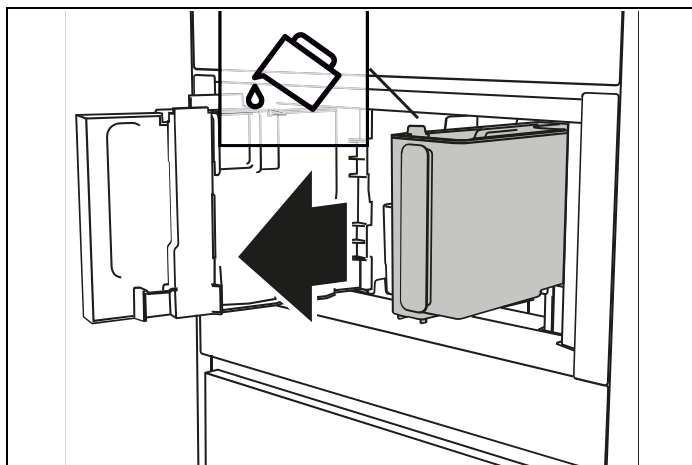
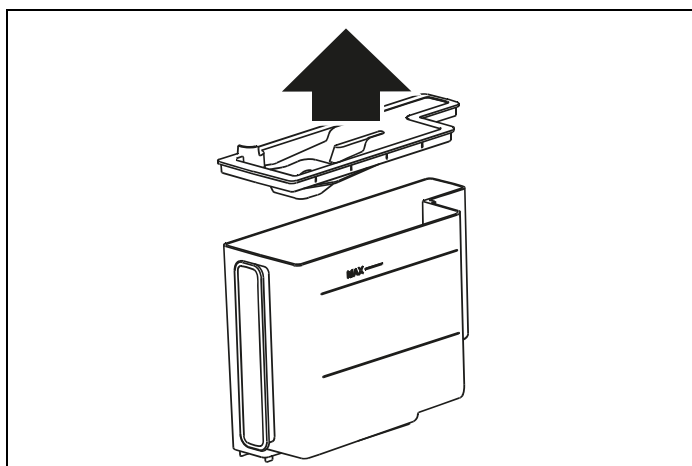
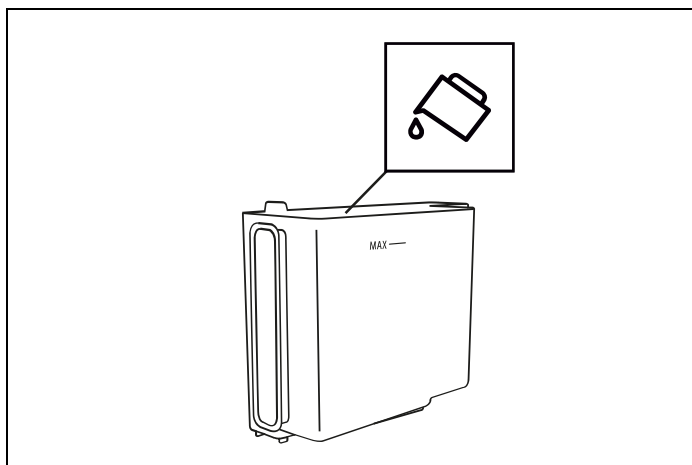
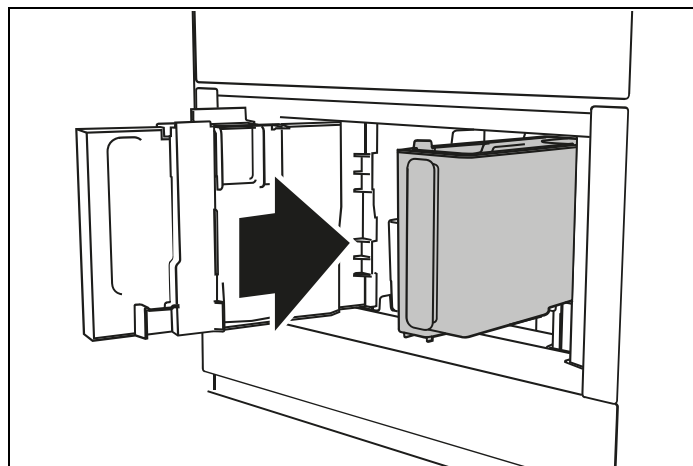

Fig. 17
Fig. 18
Fig. 19
Fig. 20
- 3) FILL WATER TANK WITH FRESH WATER:** remove the water tank (A12) (Fig. 17), open the lid (Fig. 18), fill to the MAX line (marked on the inside of the tank) with fresh water (Fig. 19); close the lid and put the tank back into the appliance (Fig. 20);